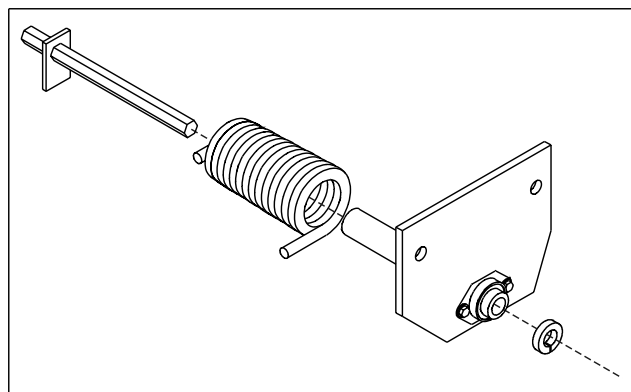

FIGURE 2
- 3) Bolt the pivots to the box using the included 1/2" x 2 1/2" bolts, flat washers, and lock nuts (the head of the bolt must be on the outside, and the washer and nut on the inside.) **Note: the pivots are directional** (Figure 2 shows the driver's side pivot assembly)